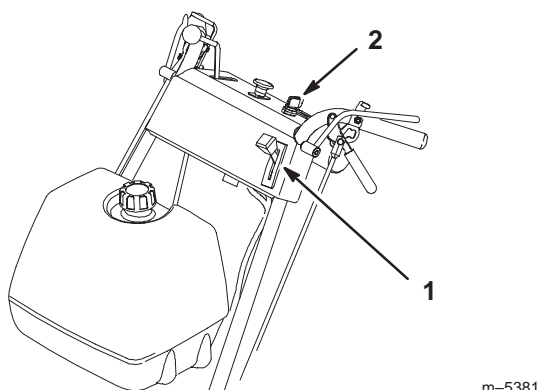

Figure 13
2. Move the throttle control to “CHOKE” position before starting a cold engine (Fig. 13).
3. Turn ignition key “START” to energize starter. When engine starts, release key (Fig. 13).
- Move the throttle lever to “SLOW” (Fig. 13).
- Turn the ignition key to “OFF” (Fig. 13).